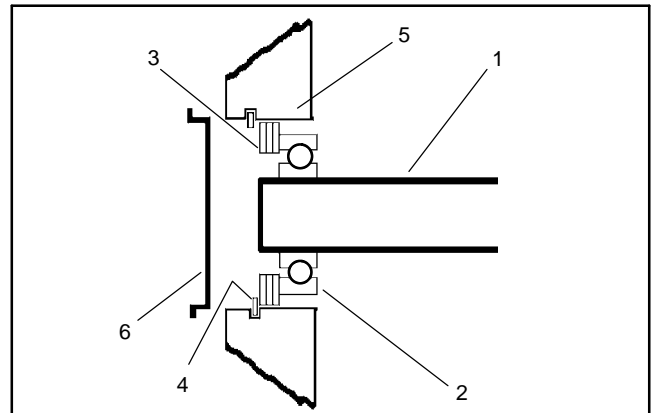

Figure 95
24. Install snap ring into the groove of the bearing housing (Fig. 95 and 96).